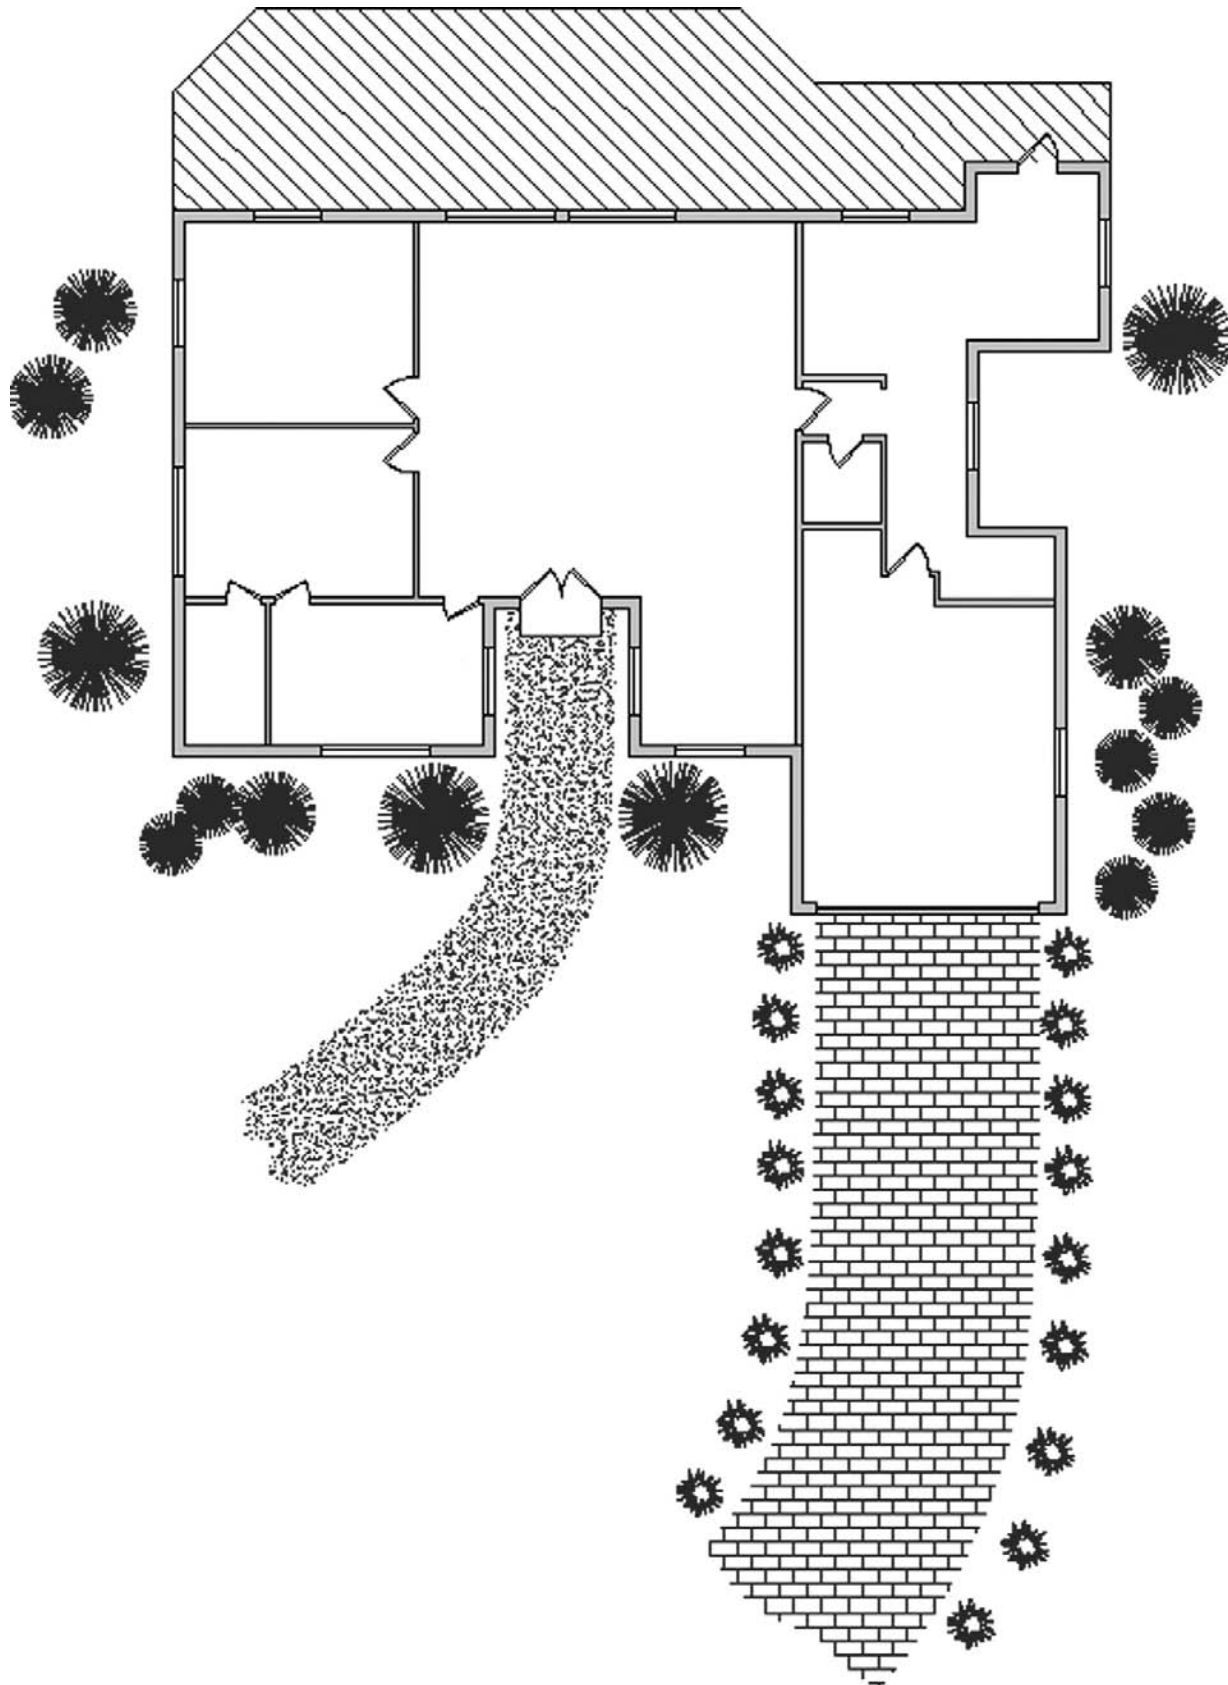

FIGURE 17.16
- Step 2.** Create the landscaping plan as seen in Figure 17.16. You need to create plines for the borders of the driveway and the walkways. Then, after adding the hatch patterns (Sand and Brick), erase some or all of the plines. For the trees and shrubs you need to call upon the xline and spline.